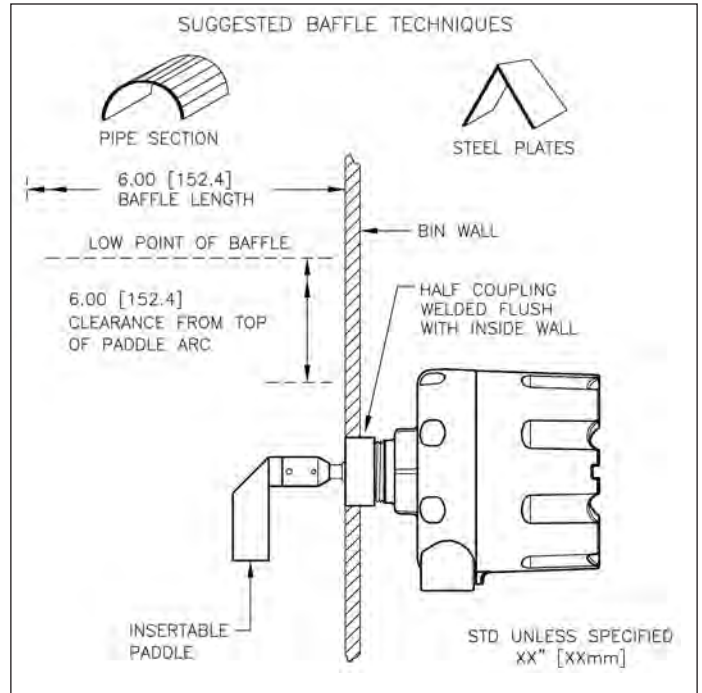

Figure 2
Protective Baffles: (See Figure 2)
- 1) Coupling Mounting** - Cut a hole into the vessel that corresponds to the outer diameter of pipe coupling. In side mount applications, position a half-coupling flush with the inside of the vessel and weld into place. In top mount applications, position a full coupling halfway into the vessel and weld into place. After greasing the mounting threads with anti-seize compound, thread the rotary paddle bin monitor into the coupling and position the conduit entrance to minimize moisture infiltration. Attach paddle if applicable. (See Figure 2)